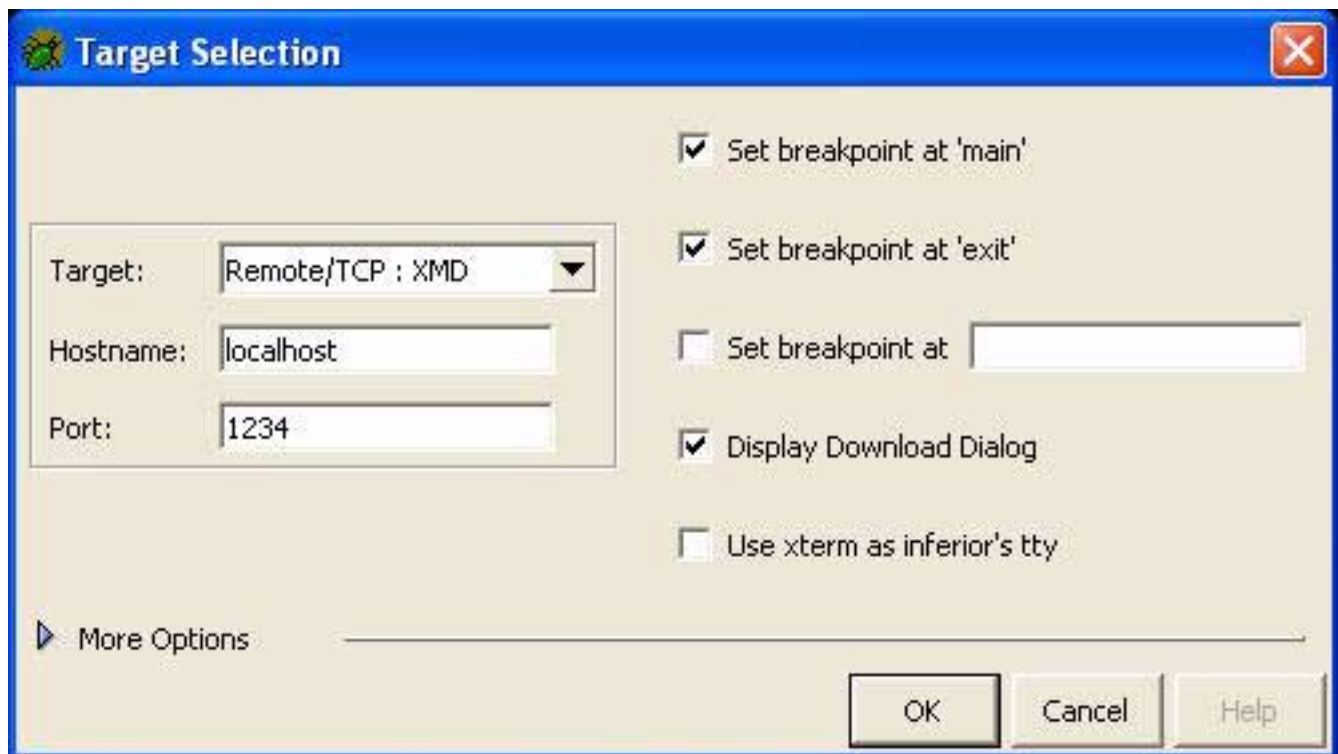

Figure 19: Target Selection Dialog
5. Configure the Target Selection dialog box to match figure 19. Click **OK**.